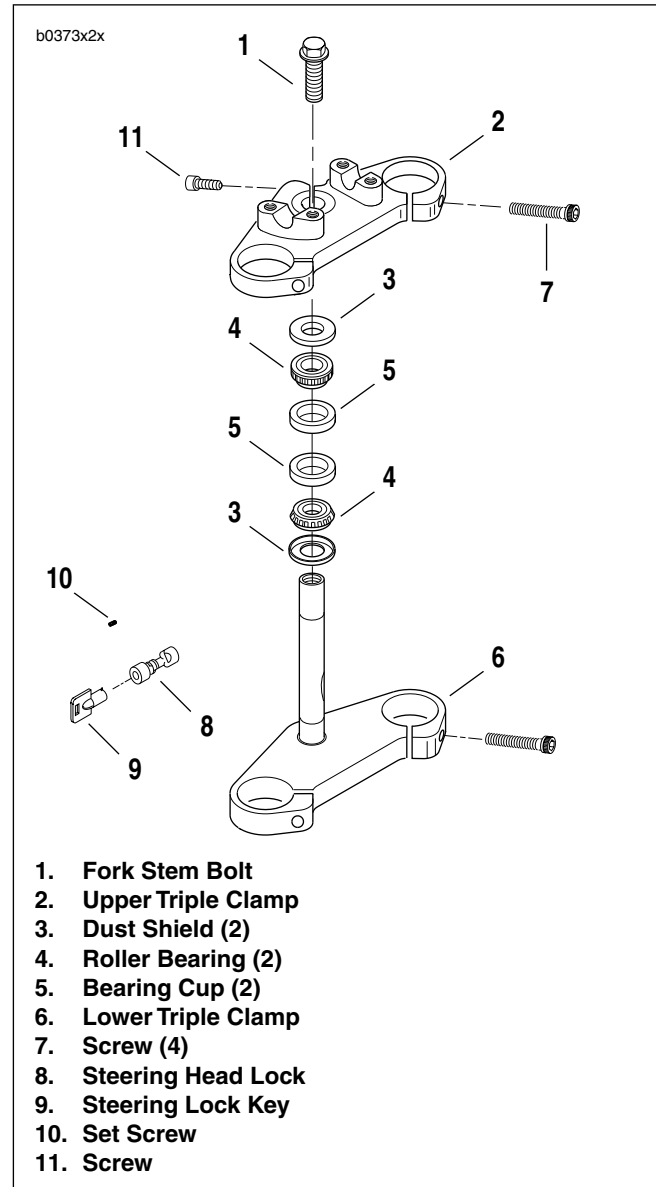
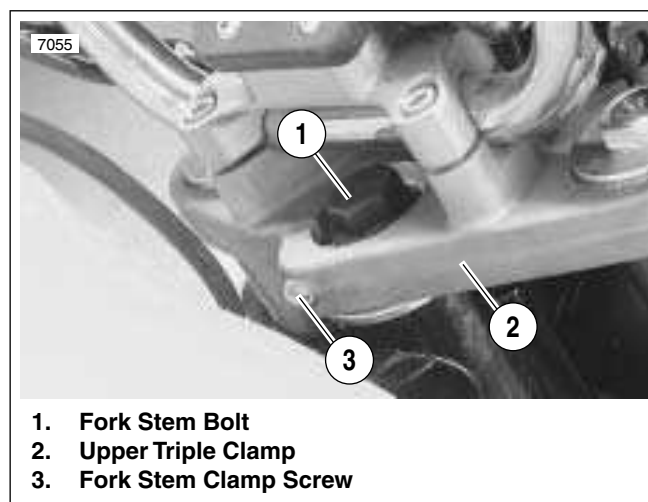

Figure 2-66. Fork Stem
Figure 2-68. Fork Stem Clamp Screw
4. See Figure 2-66. Remove all upper triple clamp screws (7, 11), fork stem bolt (1) and upper triple clamp (2).
5. Remove upper dust shield (3) and roller bearing (4).
- a. Remove two lower triple clamp screws (7). Pull the lower triple clamp (6) downward.
- d. Remove lower dust shield (3).
7. If replacement of bearing cups (5) is necessary, drive cups from steering head using STEERING HEAD BEARING RACE REMOVER (Part No. HD-39301A) and UNIVERSAL DRIVER HANDLE (Part No HD-33416).
1. See Figure 2-66. Clean the dust shields (3), bearing cups (5), fork stem and lower triple clamp (6) and frame with solvent.
2. Carefully inspect bearing races and assemblies for pitting, scoring, wear and other damage. Replace damaged bearings (4) as a set (3, 4 and 5).
3. Check the fork stem and lower triple clamp (6) for damage. Replace if necessary.
2. See Figure 2-66. Liberally coat the bearing cones (4) with grease using WHEEL BEARING PACKER TOOL (Part No. HD-33067). Work the grease into the rollers.
- a. Place lower bearing dust shield (3) over fork stem.
- c. Press bearing (4) with small end up onto fork stem and lower triple clamp (6). Use the pipe as a press-on tool.
4. Insert lower triple clamp (6) through the steering head. Install the upper bearing (4) with small end down and dust shield (3) onto fork stem.
5. See Figure 2-68. Apply LOCTITE ANTI-SEIZE to fork stem bolt (1). Loosely install upper triple clamp (2) using fork stem bolt.
- a. Tighten fork stem bolt (1). Check bearing adjustment to set fork stem bolt to proper tension. See 1.17 STEERING HEAD BEARINGS.
- b. Make sure the fork stem turns freely, then tighten the fork stem clamp screw (3).